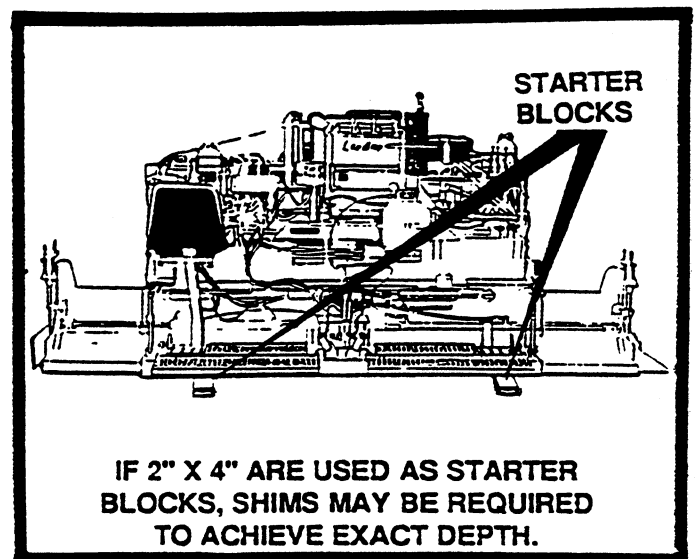

FIGURE 22
5. Place wood blocks under the screed as shown in Figure 22. These blocks should be slightly thicker (1/4 inch) than the finished (compacted) mat to allow for reduction in thickness after rolling.